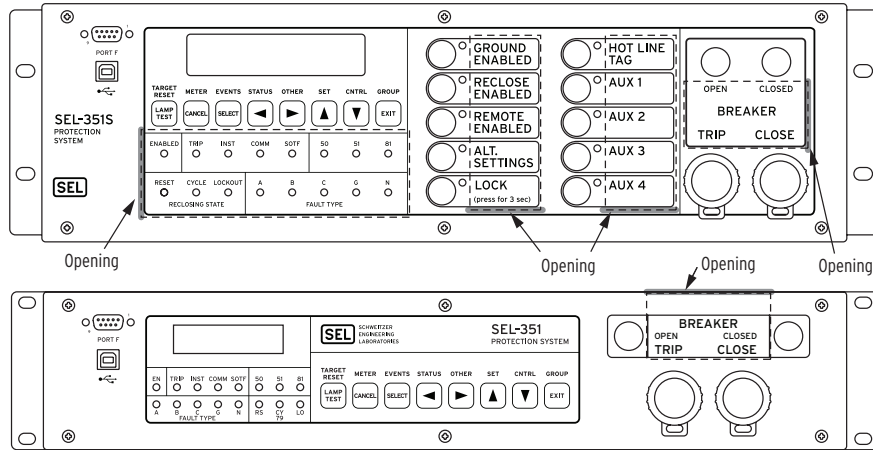
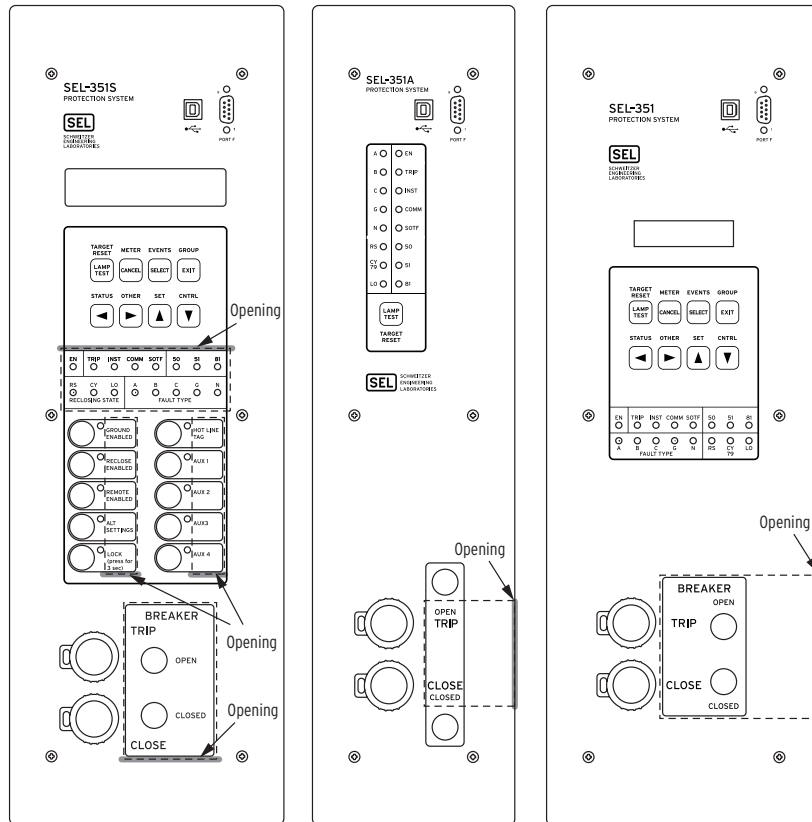

Figure 1 Typical SEL-351 Configurable Label Areas (Horizontal)
Figure 2 Typical SEL-351 Configurable Label Areas (Vertical)
The SEL-351 Configurable Labels Kit provides the materials and information needed to customize the target LED and operator control pushbutton areas of the front panel. *Figure 1* and *Figure 2* show the pocket areas and openings.
- Step 1. Slide the tip of the tool under the label at the pocket opening (see *Figure 1* for example opening locations).